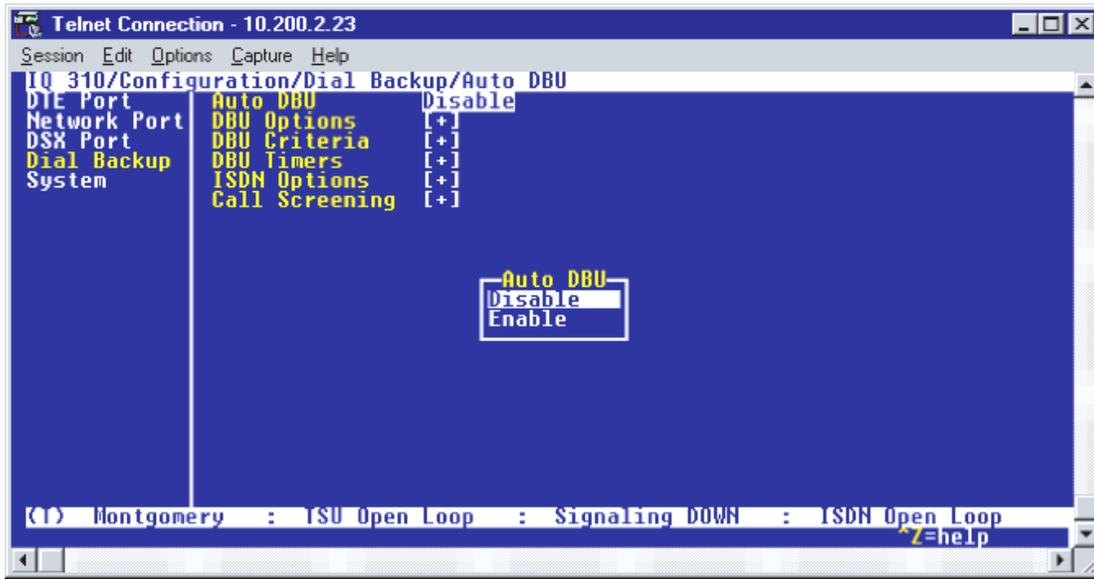

Figure 34. Auto DBU Menu
3. Use the right arrow key to select **AUTO DBU**; press **<ENTER>**. The screen shown in Figure 34 will appear.